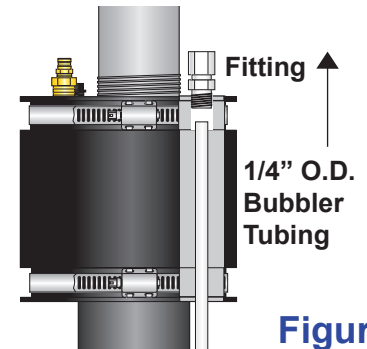

Figure 13
14. Lower the weighted end of the bubbler tubing down into the annular space between the well casing and the drop pipe, to the desired depth (the level controller will turn the pump supply air on and off as needed to maintain well's liquid level between 5" and 10" above the lower end of the bubbler tubing weight). Insert the upper end of the bubbler tubing through the bubbler tubing compression fitting from the underside of the wellhead assembly (Figure 13) and push the tubing up through the fitting, leaving the desired length of tubing below the wellhead assembly. Tighten the bubbler tubing compression fitting, using two wrenches, tight enough that the bubbler tubing cannot be moved up or down.